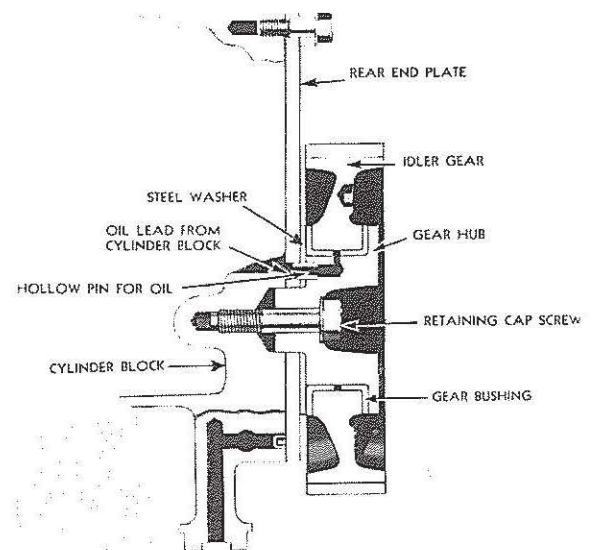

FIG. 5
2. Position crankshaft gear, and balance shaft gear so marks align with those on idler gear, and roll idler gear into position, then slide gear hub into place through bore in gear. Special care must be taken to have hollow pin in inner face of gear hub register in hole in end plate which carries oil to idler bearing. Fig. 5.